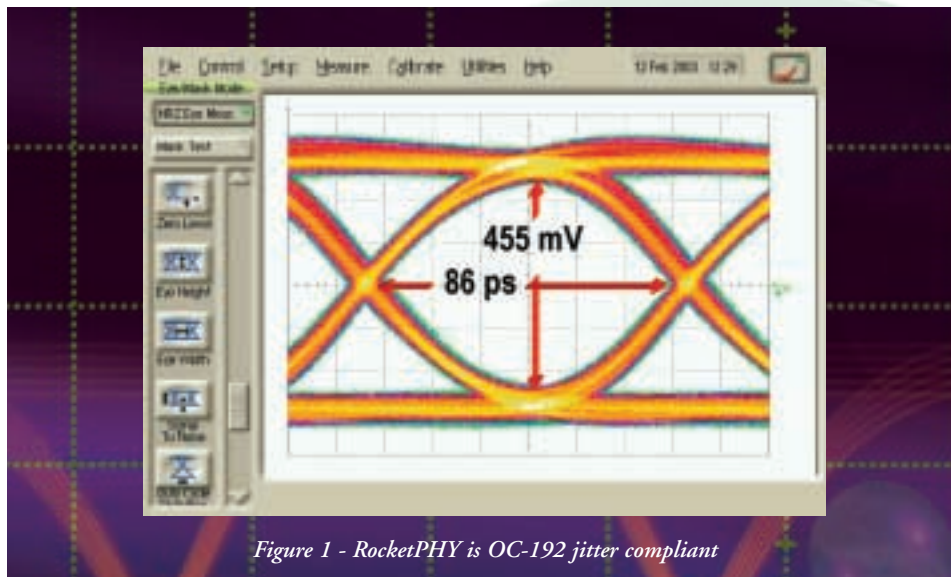

Figure 1 - RocketPHY is OC-192 jitter compliant
- Exceeds OC-192 jitter generation, jitter transfer, and jitter tolerance specifications, as shown in Figure 1